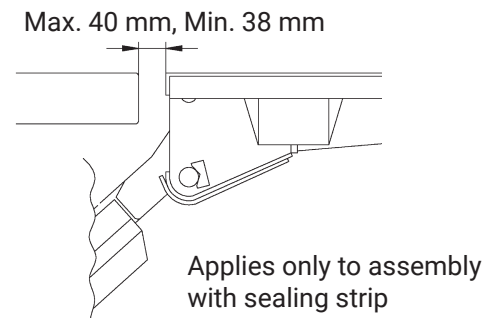
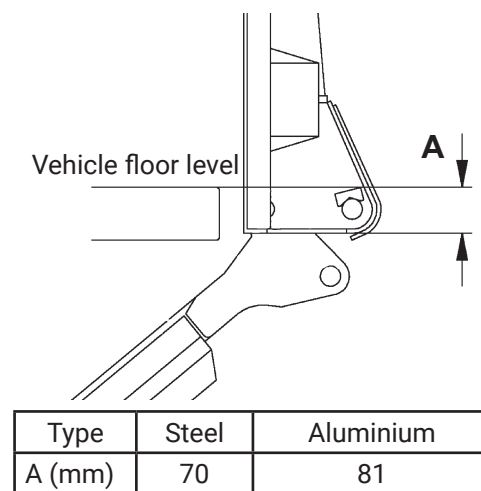

Figure 26. Check the position in relation to the rear beam of the vehicle
Figure 27. The platform underhang (A), varies according to platform type, and this should be taken into consideration when installing the upper edge seal.
5. Test the lift by carefully raising it to the vehicle floor level and tilting it to the vertical position. Check the position in relation to the rear beam and side posts of the vehicle. See Figure 26 and Figure 27.